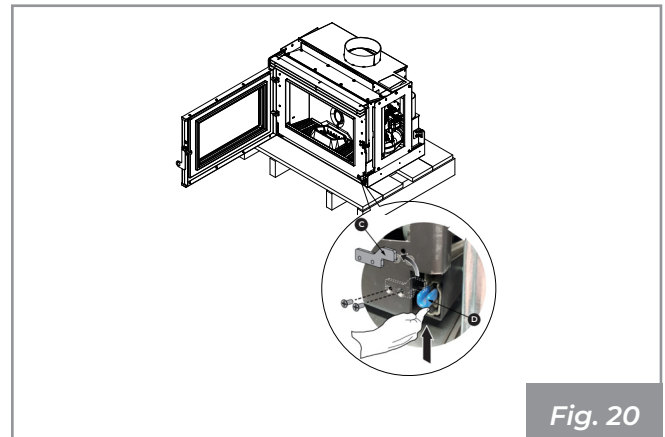

Fig. 20
- Remove the safety bracket ( C ) by unscrewing the fixing screws. Raise the lever ( D ) to unlock the slide. (**Fig. 20**).